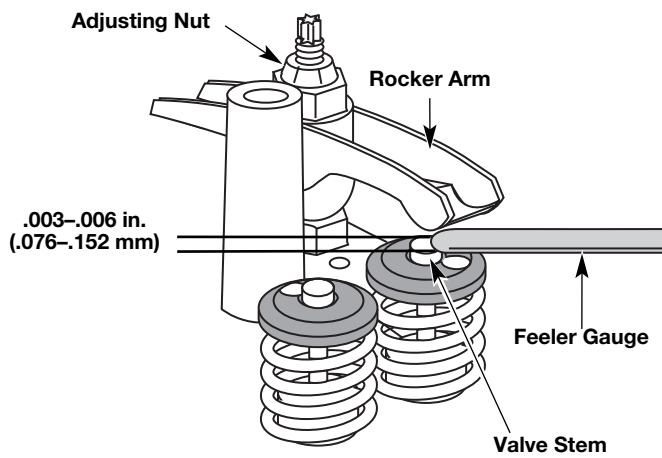

Fig. 33
- a. Turn the adjusting nut using a 5/16 inch (8 mm) wrench or nut driver (Fig. 33).